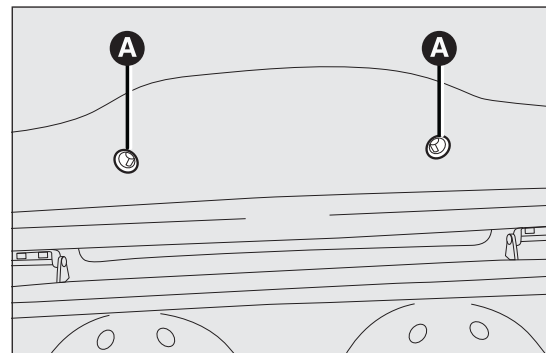

fig. 119
- ☐ remove the two guard caps and unscrew the two fastening screws A fig. 119;